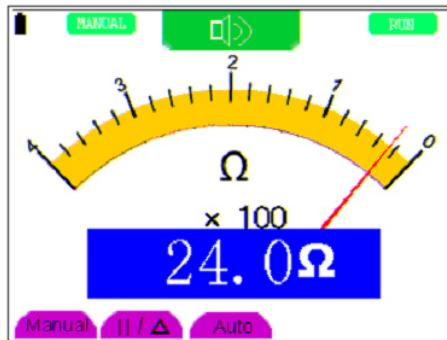

Figure 36.- On-off test.
4. Connect the red and black leads to the test point. If the resistance value of the tested point is less than 50 Ω , you will hear beep sound from the test tool. Now, you can see a screen that looks like the following Figure 36.
NOTE: When measured value is less than 5 nF capacitance, please use small capacitance measurer of this multimeter and use relative value measuring mode to improve measuring precision. It will take about 30seconds if capacitance measurement is large than 40uF. Now, you can see a screen that looks like the following figure 36.